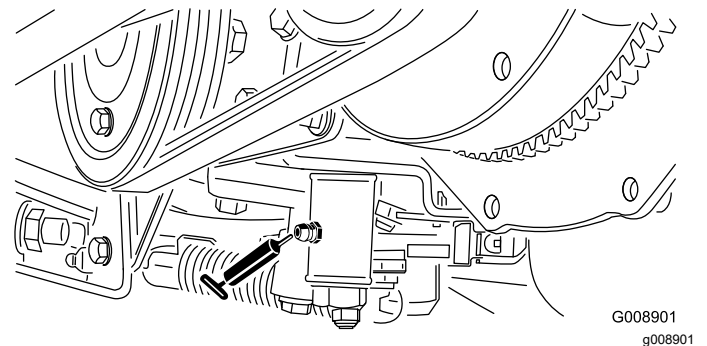

Figure 45
- Neutral adjust mechanism (Figure 45)